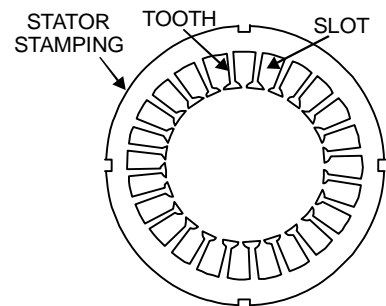

Fig. 4.2: Stator stamping
- (ii) **Stator core** : The stator core is to carry the alternating magnetic field which produces hysteresis and eddy current losses, therefore, core is built up of high grade silicon steel stamping. The stampings are assembled under hydraulic pressure and are keyed to the frame. Each stamping is insulated from the other with a thin varnish layer. The thickness to the stamping usually varies from 0.3 to 0.5 mm. Slots are punched on the inner periphery of the stampings, as shown in fig. 4.2, to accommodate stator winding.